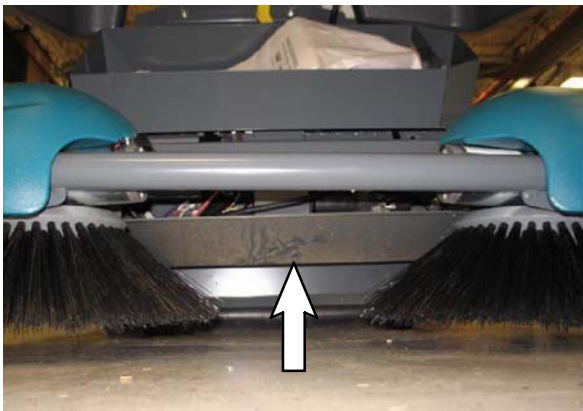

FIG. 2
6. Center the jack underneath the Pre-Sweep frame and jack up the machine approximately 15" from the floor. Refer to Fig. 2.